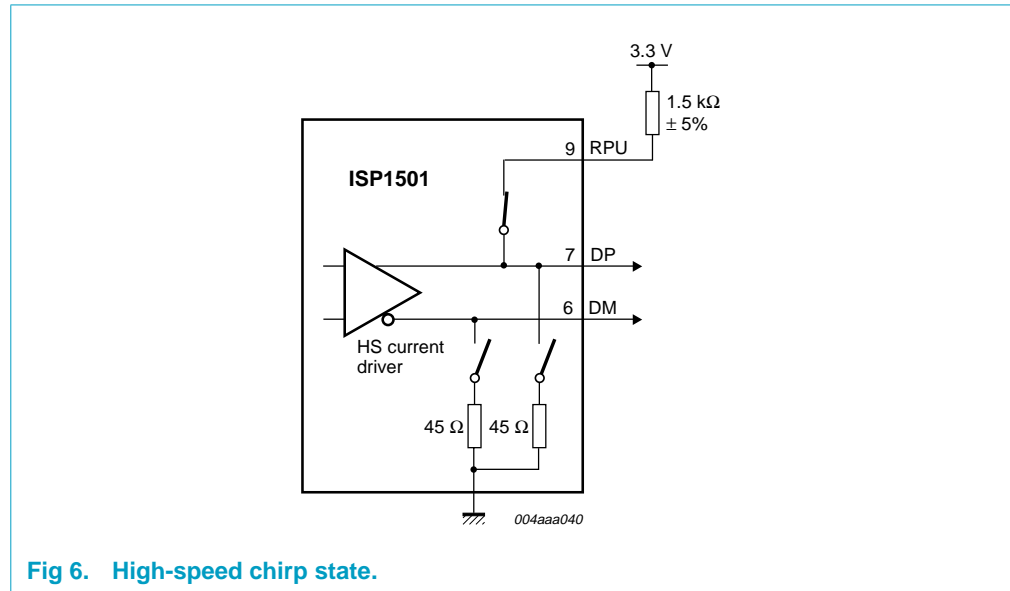

Fig 6. High-speed chirp state.
8.2.4 High-speed (HS) chirp state
In the high-speed (HS) chirp state,  $45\ \Omega$  terminations are disabled from the DP and DM lines. The pull-up resistor is connected on the DP line. The HS transceiver is enabled, and the parallel interface and HS handshake signals are in use (see Figure 6).